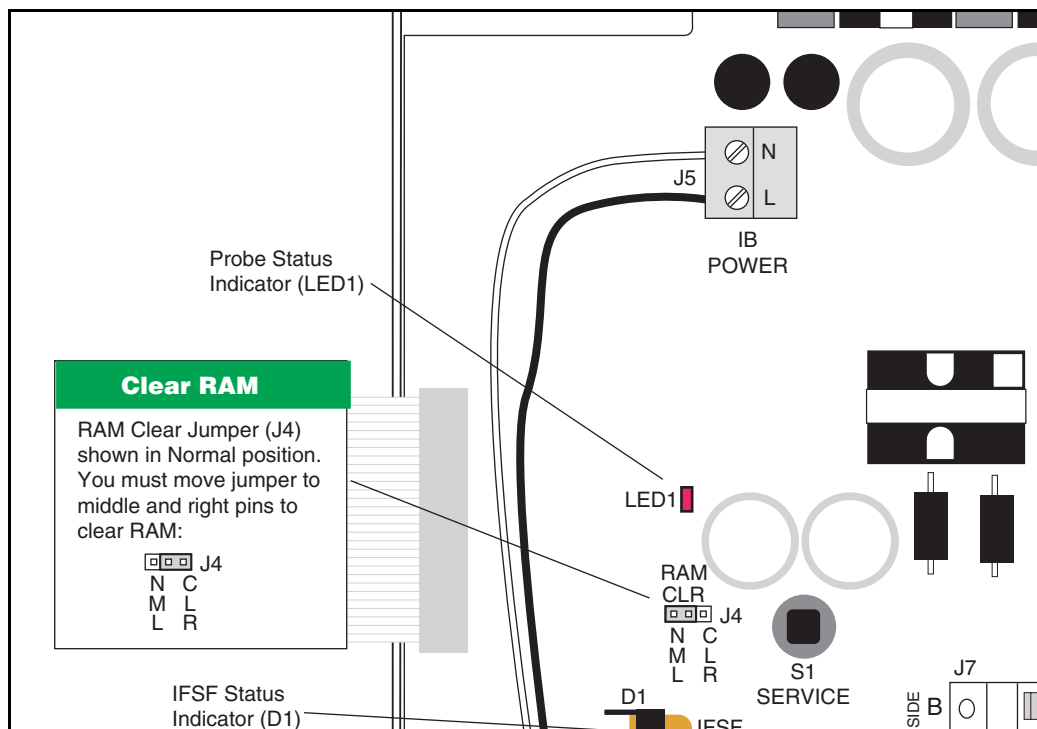

Figure 30. Clearing RAM
4. Move RAM clear jumper from NML to CLR position (Figure 30). Switch On power to TLS-IB and wait 30 seconds, then switch Off power to TLS-IB. Move the RAM clear jumper back to NML position.
- Probe data is not being processed. (You can check the Probe Status Indicator [LED1 - see Figure 30 on page 35] to verify that the probe is communicating with the TLS-IB. If LED1 is flashing, the CPU is acquiring valid probe data), or,